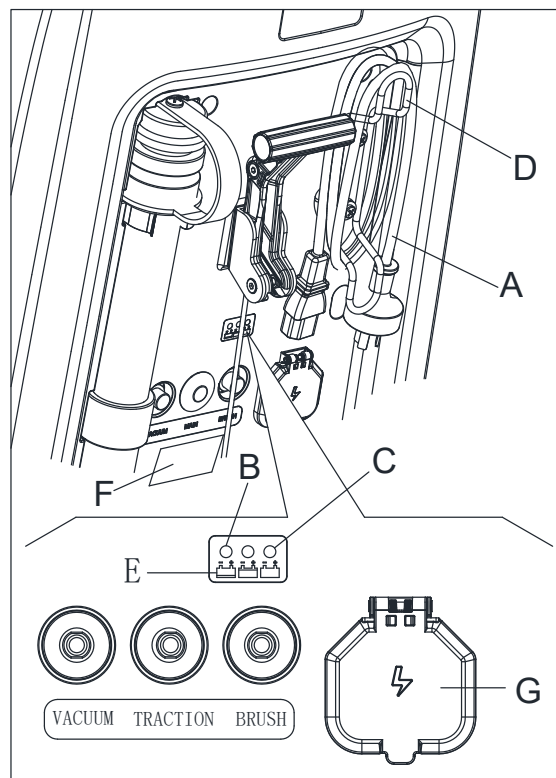

Figure 15
- Connect the battery charger cable (A, Figure 15) to the electrical mains (G) (the electrical mains voltage and frequency must be compatible with the battery charger values shown on the machine serial number plate (F)). When the battery charger is connected to the electrical mains, all machine functions are automatically cut off. If the red warning light (B) on the battery charger control panel stays on, the battery charger is charging the batteries.
- When the green warning light (C) turns on, the battery charging is completed.
- When the battery charging is completed, disconnect the battery charger cable (A) from the electrical mains (G) and wind it round its housing (D).
For further information about the operation of the battery charger (E, Figure 15), see the relevant Manual.